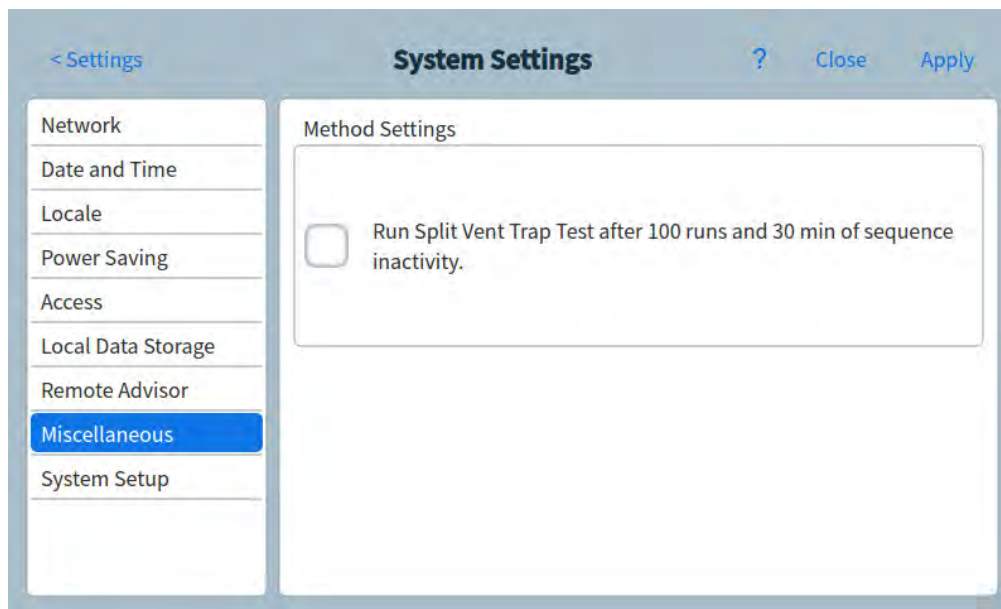

Figure 52. Miscellaneous page
- 1 From the System Settings page, select the **Miscellaneous** page selection button. The Miscellaneous page appears. See **Figure 52**.